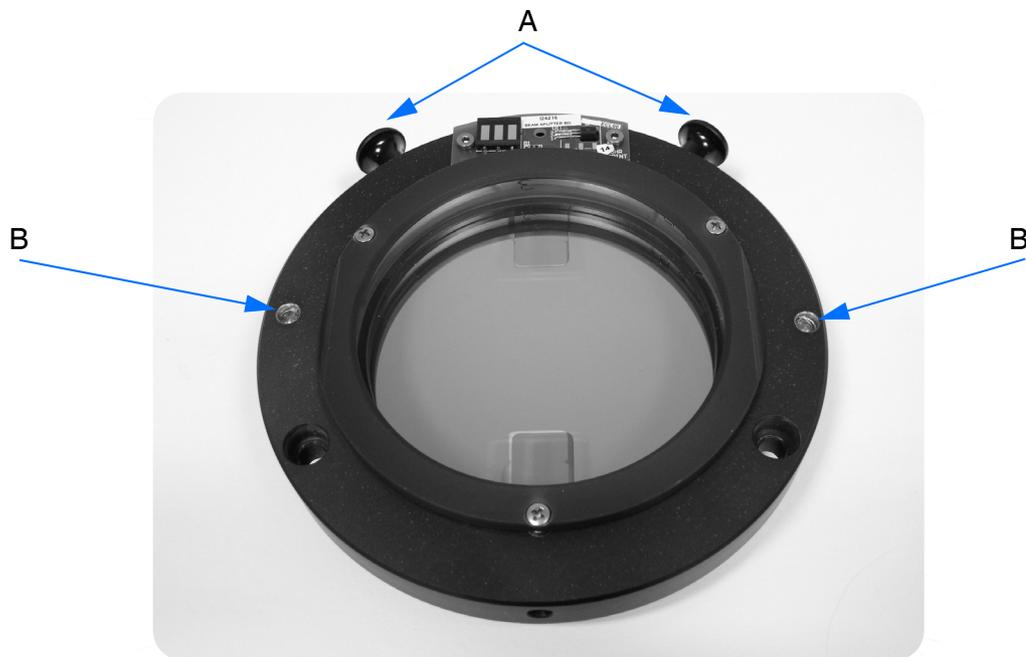

Figure 22: Beam splitter
- Do not touch the beam splitter surface. Consequently, the beam splitter may become useless. Always hold the beam splitter on the two knobs (A in figure 22).
- 7** Align the two guiding pins (B in figure 22) with the slots (C in figure 26 and A in figure 23) in the block.